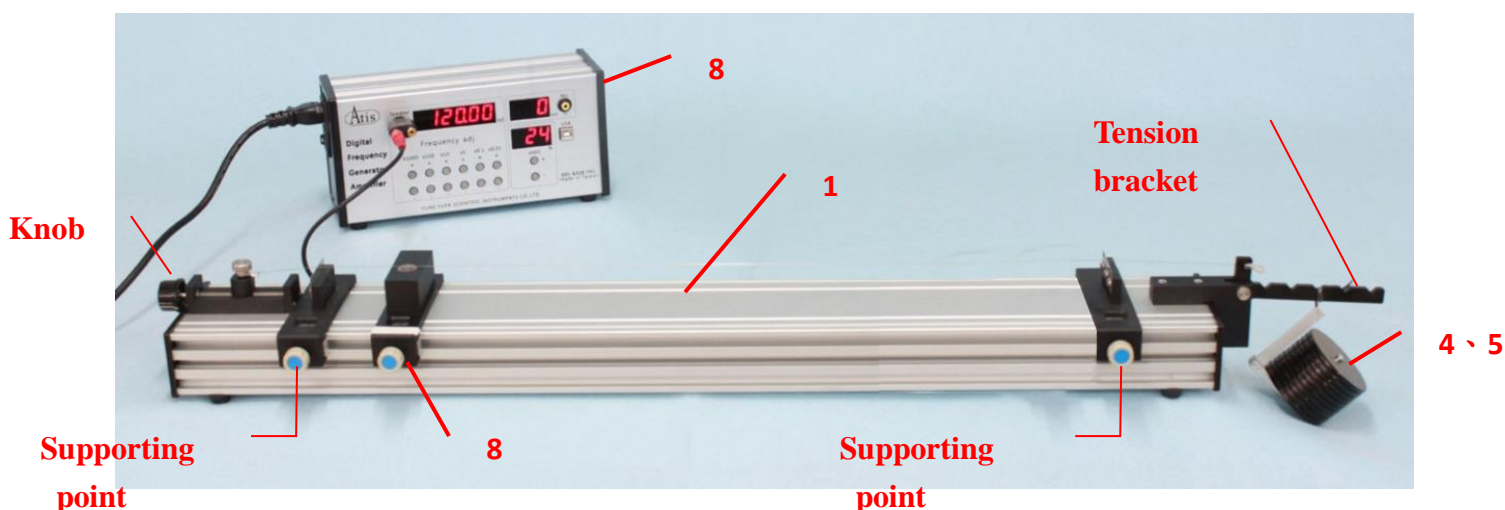

Figure 1-1
1. The experiment setup is shown in **Figure 1-1**. Keep the distance between two supporting points in 60cm. Adjust the knob to keep the tension bracket horizontal. Place the **driver coil** between two supporting points. Keep the coil 5cm away from one of the supporting points. Connect the coil to the speaker of **digital frequency generator amplifier**.